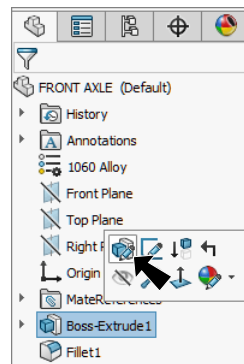

Fig. 12
- Step 1. Click **Boss-Extrude1** in the Feature Manager and click **Edit Feature**  in the menu, Fig. 12.